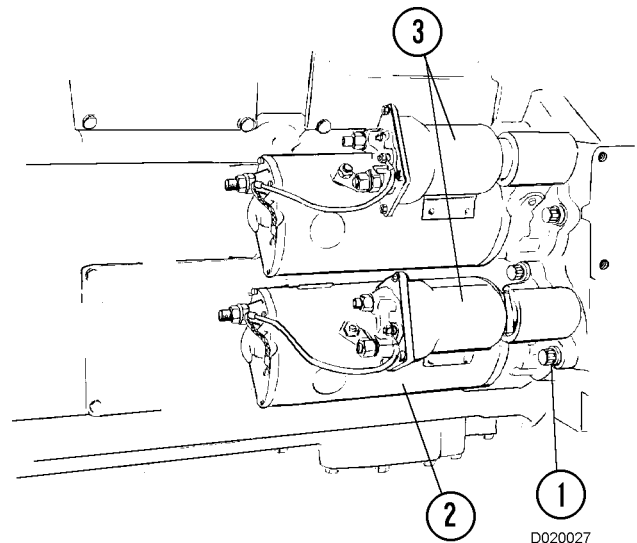

FIGURE 2-4. CRANKING MOTORS
2. Mark wires and cables and remove them from the terminals on cranking motor (2, Figure 2-4) and solenoid (3).
3. Remove cranking motor cap screws (1).
1. Align cranking motor (2, Figure 2-4) housing with the flywheel housing adaptor mounting holes and slide the cranking motor into position.
2. Insert cranking motor cap screws (1).